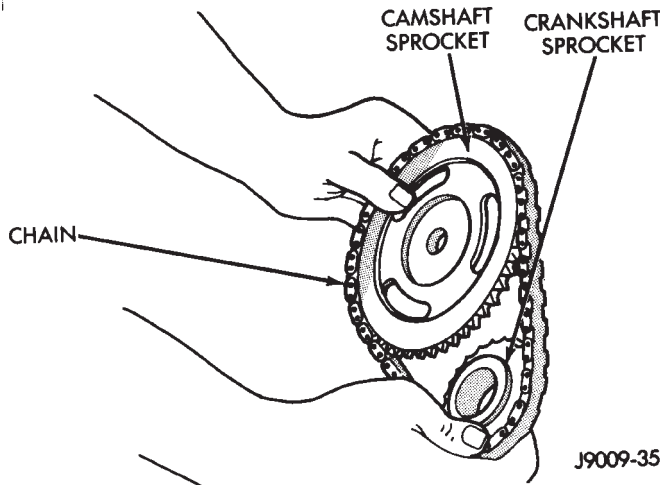

Fig. 51 Camshaft and Crankshaft Sprocket and Chain
(13) Remove the sprockets and chain as an assembly (Fig. 51).